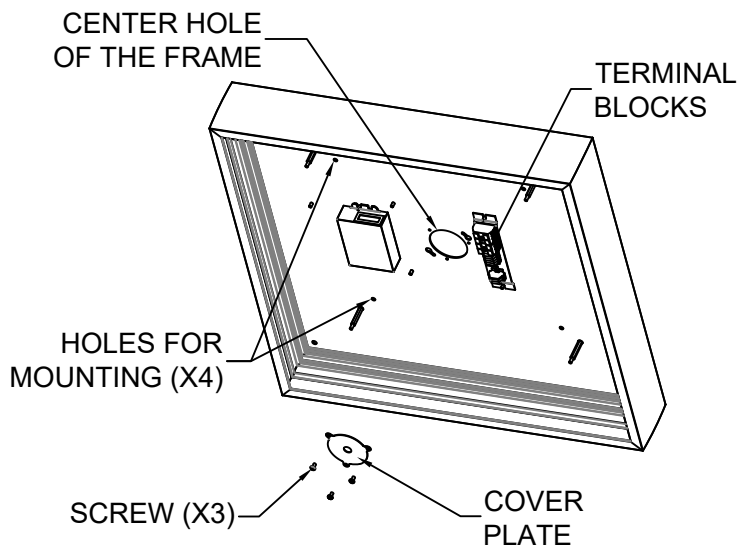

FIG. 2
2. Remove the cover plate and pass the main power supply wires through the center hole of the frame. (FIG. 2)
4. Pass the input wires from the terminal block through the cover plate and make all the necessary connections to the main power supply (please refer to the provided Wiring Diagram). Carefully push the line wires and connections back inside the junction box (by others). Replace the cover plate. (FIG. 2)